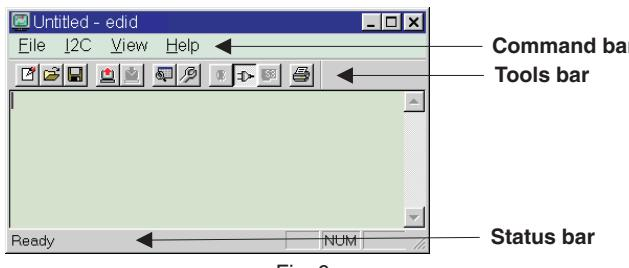

Fig. 6
5. Click **OK** button. The main menu appears (as shown on Fig. 6).